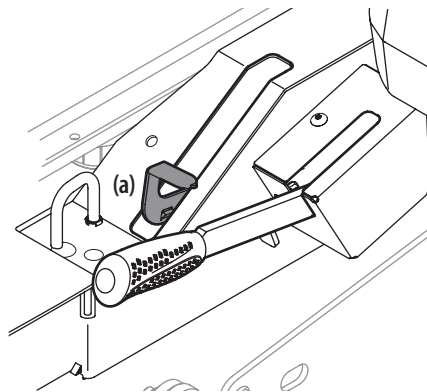

Figure 4-8
1. Engage the transmission bypass valves by pulling the bypass lever (a) upward and all the way back. See Figure 4-8.